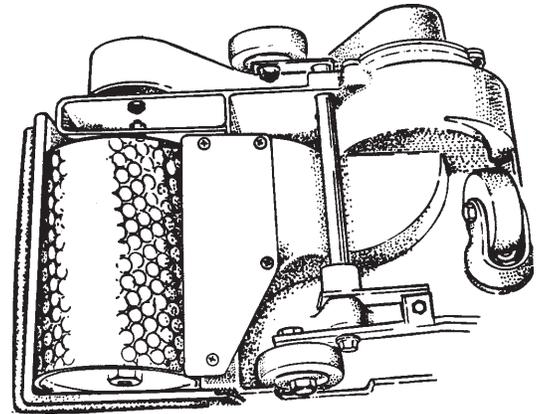

Figure 12
5. Align the dust shoe with the drum and tighten screws. See figure 12.